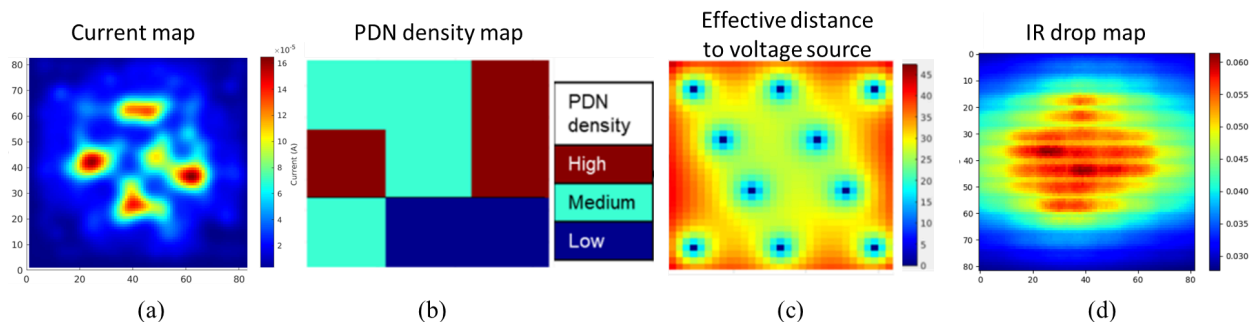

Fig. 1: Current map, PDN density, voltage source, and IR drop distributions across the chip.
**Features:** The example I presented in class represents the above three features as three distributions where the current source distribution is modeled as a current map (Fig. 1(a)); the PDN topology is modeled as a function of the density (spacing between power stripes per unit area) of the power grid (Fig. 1(b)) in different regions (there are only three types of densities), and the voltage source distribution is modeled as an effective distance map which is the distance from each PDN node to the PDN node with the voltage source (Fig. 1(c)). For example, one of the papers for Fig. 1(c), uses the idea of parallel paths and develops an effective distance to all  $N$  voltage sources as the reciprocal of the sum of distances to each voltage source.
**Labels:** The output is a distribution of IR drop at every node in the lowermost layer of the PDN, which can be represented as an IR drop map (Fig. 1(d)). Note that if you did not have good accuracy after Phase 1, you can use SPICE output directly as labels.
In this step, your goal is to convert the SPICE netlist to the images shown in Fig. 1(a), (b), and (c). Then convert the output voltage file into an IR drop map based on the nodes located on the lowest layer of the PDN, as shown in Fig. 1(d). To convert your SPICE files and output voltage files from Phase 1 to images, you can use the x and y coordinates available in the node names.